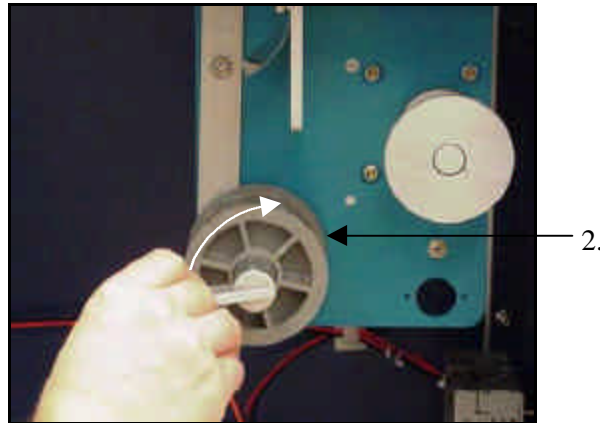

Figure 16: Rotating Supply Shaft Stop Lever To Up Position
2. Rotate the supply roll shaft until the stop lever is in the **UP** position (**Figure 16**).